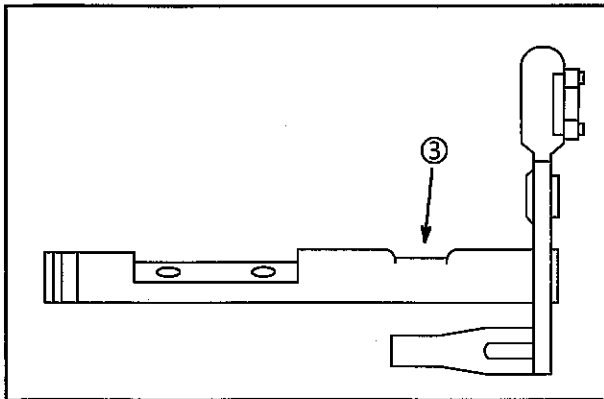

Fig. 59
2. Inspect throttle shaft and choke shaft for wear (3). Replace if worn, Fig. 59.